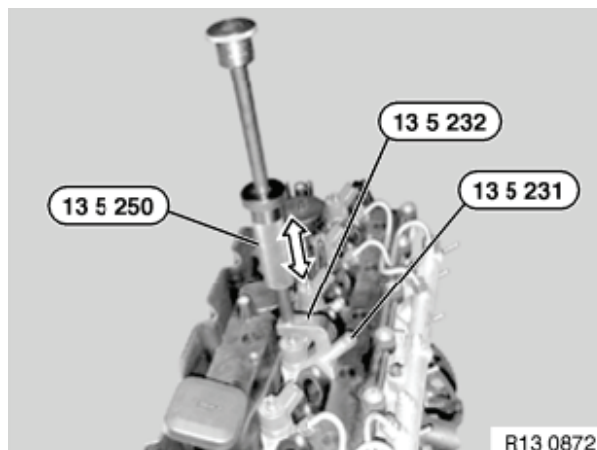

Figure 6-9
8. If the injector is stuck, assemble special tools OEM No. 13 5 250, 13 5 231 and 13 5 232 and fasten to injector high-pressure fuel line connection. Remove using slide hammer (**Figure 6-9**).